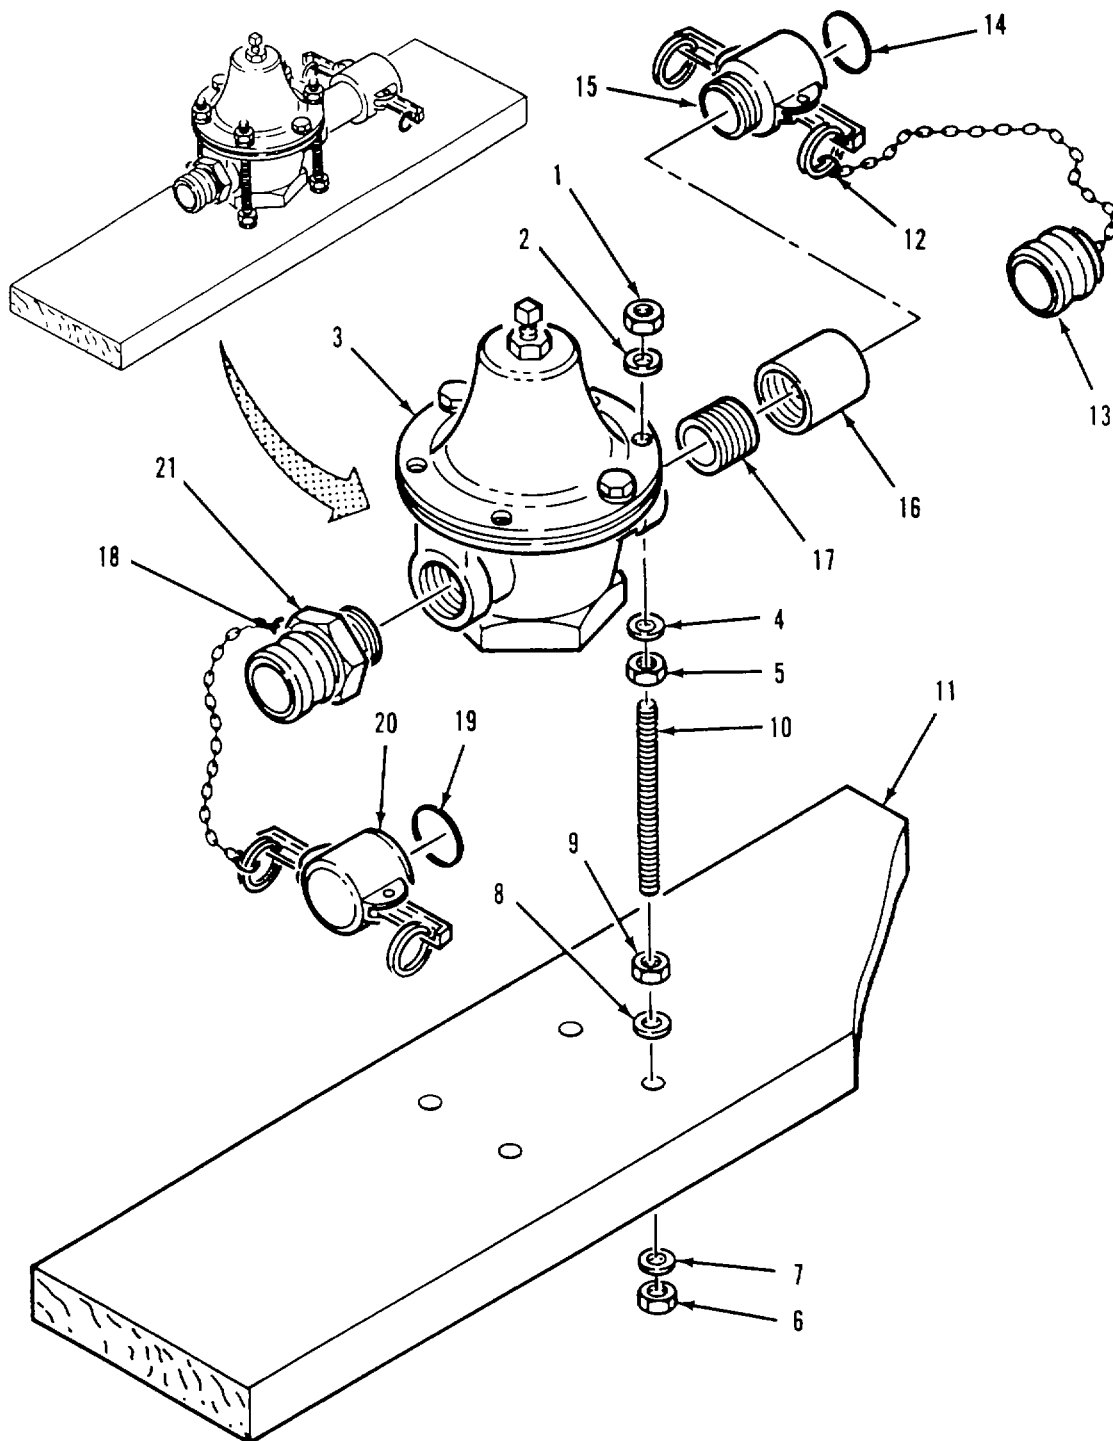

Figure 4-10. Water Pressure Regulator Disassembly.
a. Disassembly. Refer to figure 4-10.
Remove regulator assembly from mount. Refer to figure 4-10.
Install regulator assembly on mount. Refer to figure 4-10.